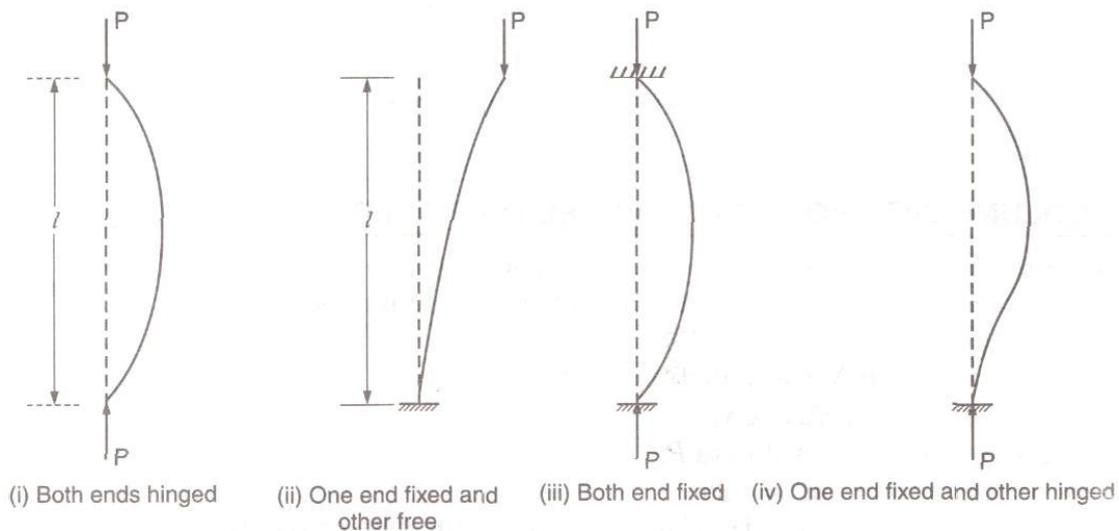

Fig.4.2
- Both the ends hinged [Fig. 4.2(i)]
- Both the ends fixed [Fig. 4.2(ii)]
- One end fixed and other end hinged [Fig.4.2(iii)]
- One end fixed and other free [Fig.4.2(iv)]